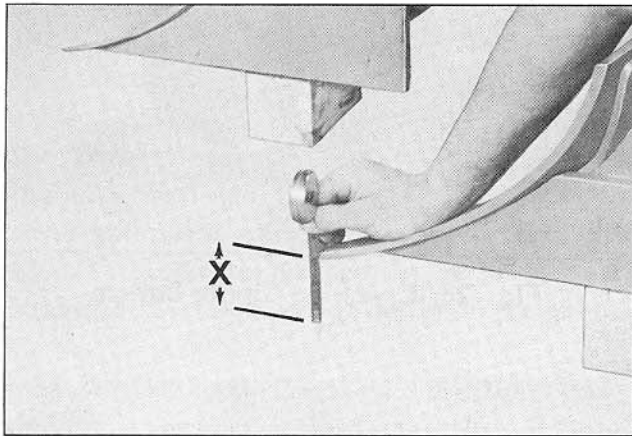

Fig. 17 Dimension "X"
4. Referring to Figs. 17, 18 and 19 measure the distance "X", "Y" and "Z".